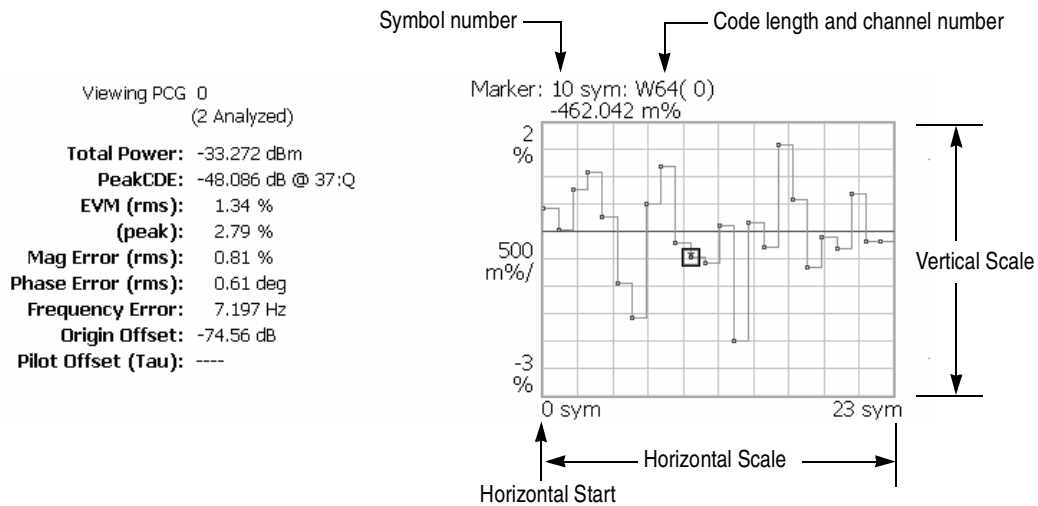

**Figure 2-4: EVM display**
**EVM Display.** When you select Mainview Content from the VIEW DEFINE menu and then select EVM from the Mainview Content submenu, changes of EVM (Error Vector Magnitude) over time are displayed for each chip or symbol (see Figure 2-4).